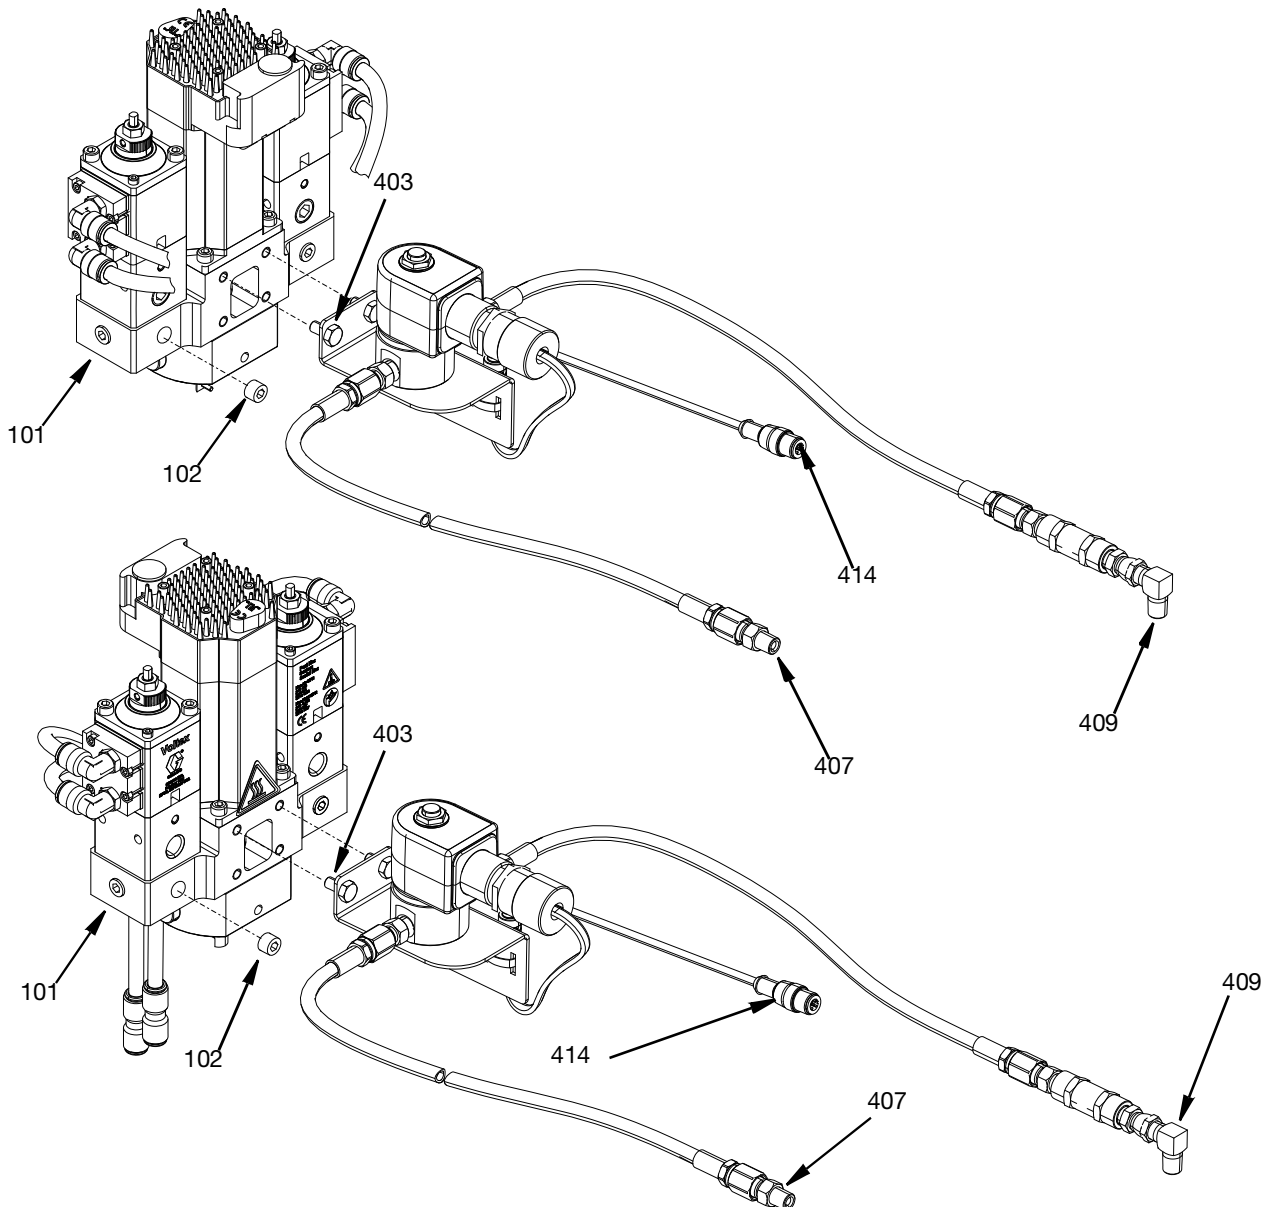

FIG. 58
4. Remove the pipe plug (102) from the base housing (101).
5. Assemble the high pressure gas nucleation kit onto the valve base housing (101) with the 2 Cap screws (403). The gas nucleation kit can be assembled either remotely or onto the Voltex Dynamic Mix Valve as shown in FIG. 58.
6. Install the gas inlet port pipe elbow (409) into base housing (101)
7. Connect incoming gas from the customer supplied source to the adapter fitting (407).